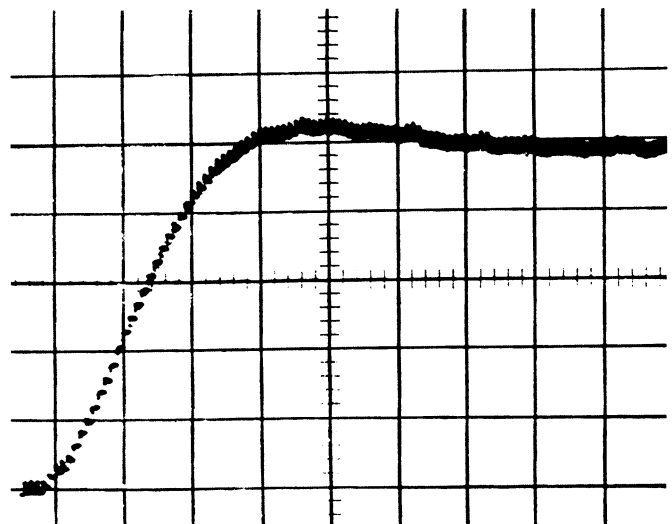

Figure 4-5. Typical 10-90% Rise Time on 100V Range
- B. Set the DC calibrator to output +1V. The output of the Model 262 should be +100 μV . As the DC calibrator is set to output 1V observe the Model 155 10-90% rise time on the oscilloscope. The rise time must be less than one second and typically is less than 0.5 seconds. Figure 4-5 shows a typical rise time of the Model 155 on the 100V range.